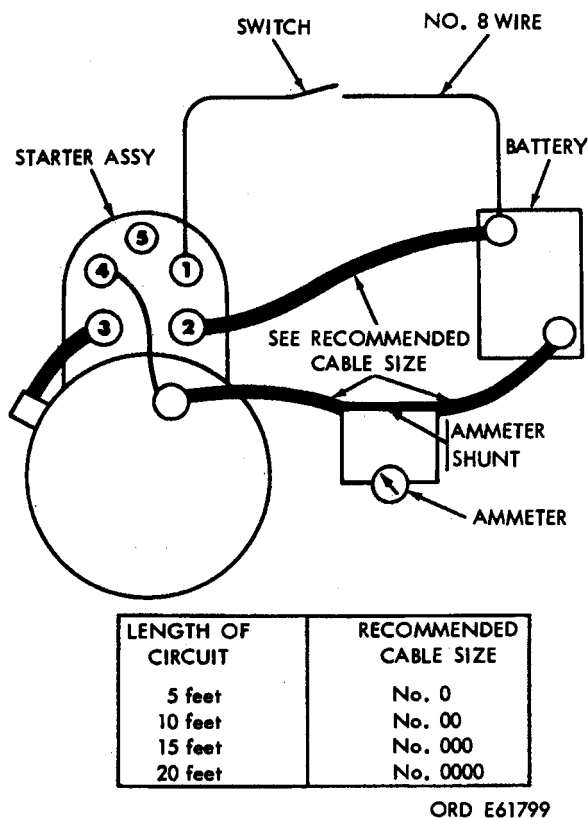

Figure 3-44. Starter test setup.
a. Connect starter into test arrangement as shown in figure 3-44.